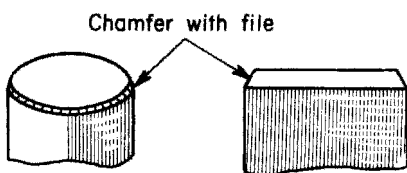
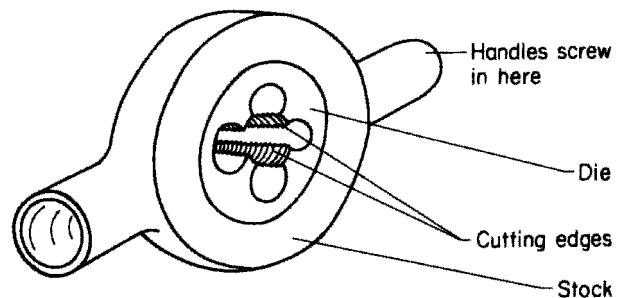

Fig. 14.26
Fig. 14.27
- 2 Slightly chamfer the edge of the conduit (see Fig. 14.26). This helps to start the thread cutting (see Fig. 14.27).
- 3 Using a stock and die (see Fig. 14.27), making sure that it is offered square to the end of the conduit, begin cutting the thread. This should not be difficult if the die is sharp, and sufficient 'tallow' (lubricating agent) has been applied.